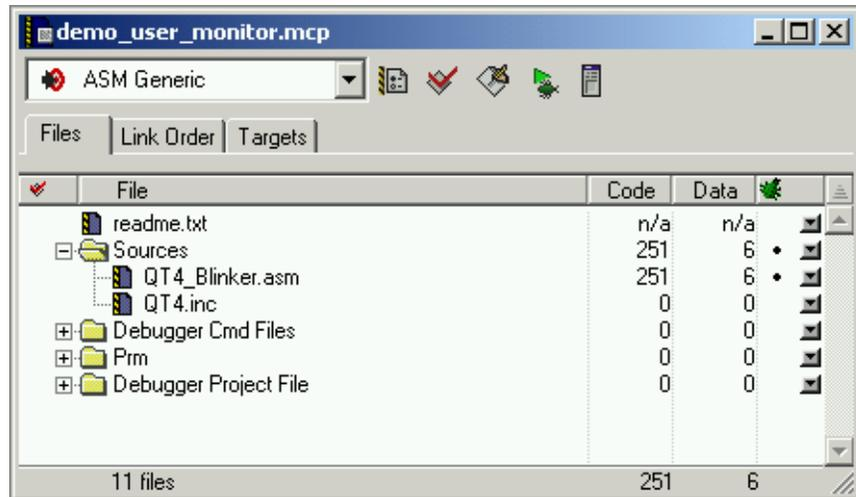

Figure 14. Project Window for Demo Software
- Double-click on the demo_user_monitor.mcp file name. The CodeWarrior project will open with the following window. (Figure 14)